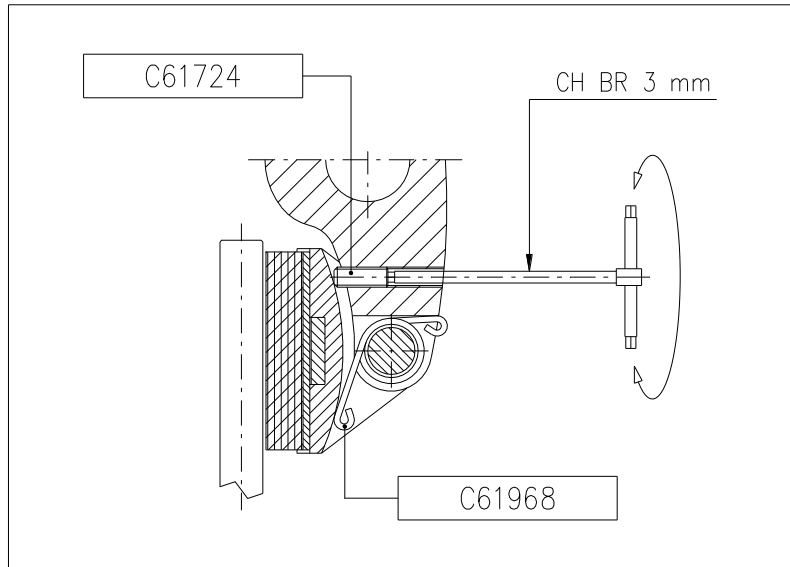

Figure 2
- Adjust the brake shoes using the grub screw C61724 rotating it in the appropriate direction with a n. 3 Allen key; the friction surface of the brake linings must be parallel to the surface of the disc (Figure 2).
6. Reassemble the shoe following the sequence in point 2 in reverse order, positioning the shoe alignment spring C61968 as indicated in Figure 2.
- Remove the shoe alignment spring C61968 from its seat and replace it with a new one positioning it as shown in Figure 2.